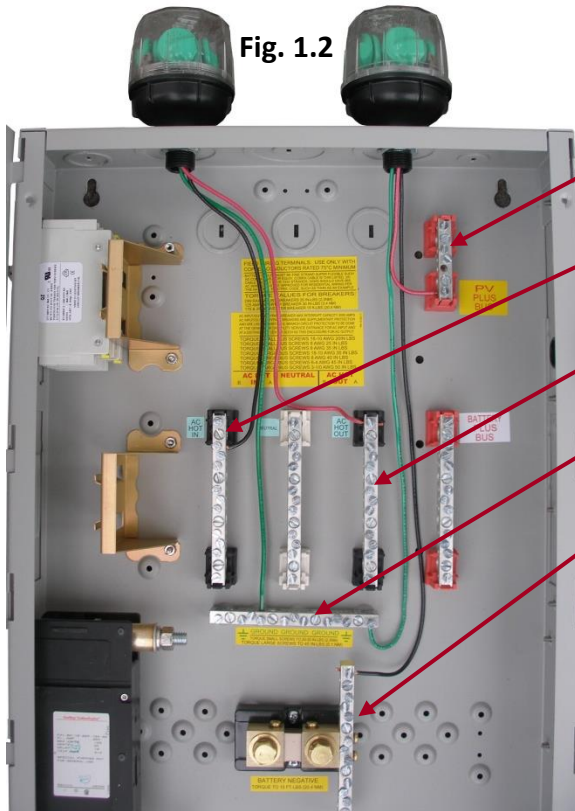

Fig. 1.2
2. Identify proper location for the SPD. Locate the unit as close as physically possible to the panel being protected and as close to the electrical connection as possible. Avoid excess lead lengths and the need for sharp bends in the wires. **Refer to fig 1.1 and fig 1.2 as an example.**
4. Connect phase conductors. The phase wires are black and red in color. The orientation is not critical to the operation. (AC) With the POWER OFF, connect one wire to AC HOT IN (line) and other wire to AC HOT OUT (load) as shown in **fig. 1.2** (DC) connect the red wire to PV + and the black wire to PV - or battery minus. PV combiners get installed as shown in **figure 1.1**